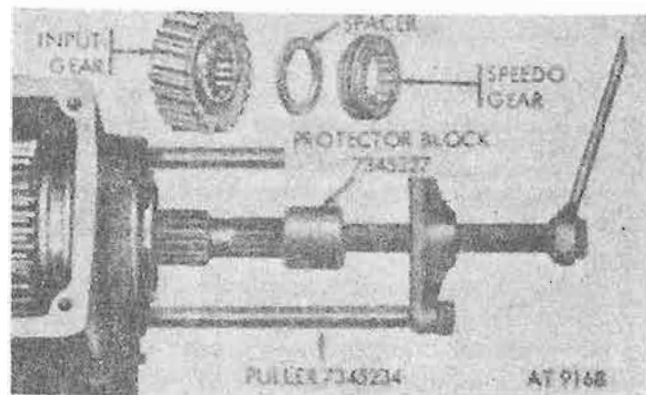

Figure 8-35. Removing transmission output shaft rear bearing.
h. Remove speedometer drive gear, spacer and transfer input gear from output shaft. Install puller (7345234) and protector block (7345227) as shown in figure 8-35, and remove rear bearing from shaft.